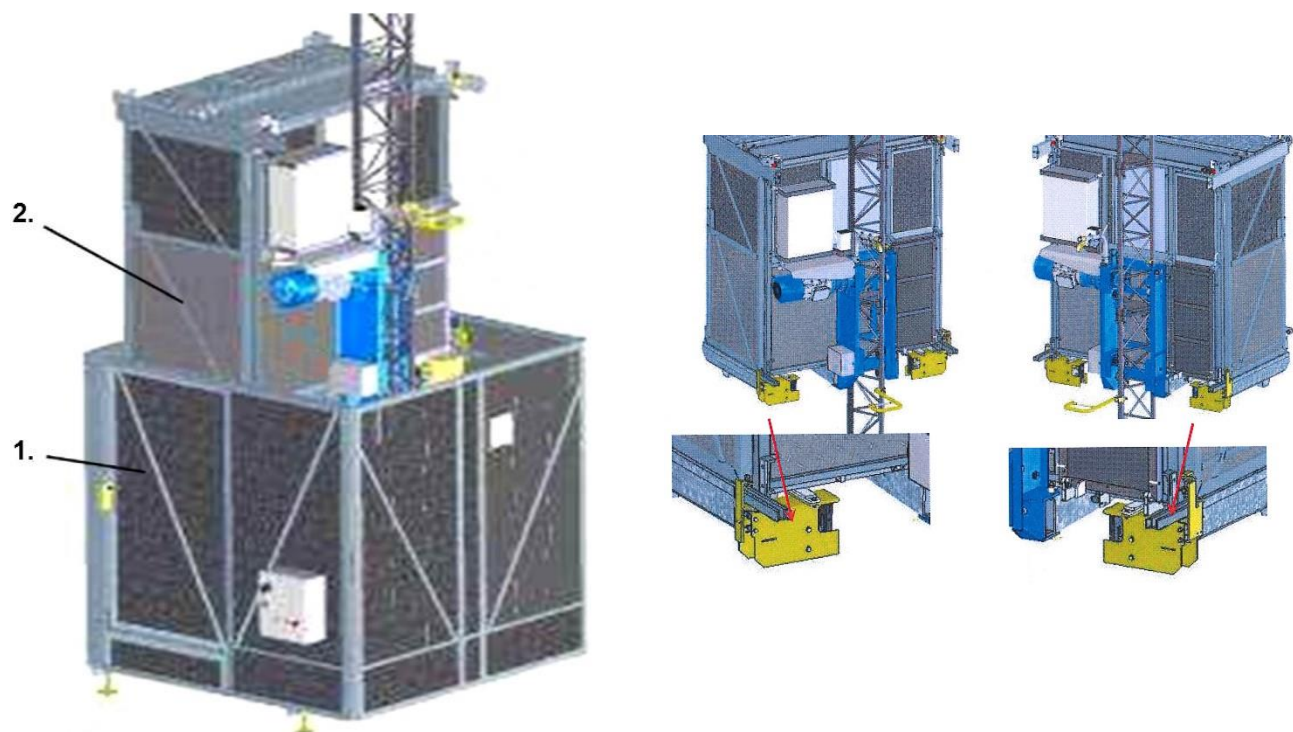

Figure 8.2
The electrically controlled movable guards that interlock mechanically are applied to the base enclosure access door, the ground floor access door to the loading unit and the doors leading to the floor level landing platforms. The control system consists of position detection switches and the mechanical interlocking system. If the door is open or not closed properly, the switch is not pressed; therefore, the machine cannot be operated. If the loading unit and the floor level doors are not aligned correctly, the mechanical interlocks prevent the doors from being opened. The base enclosure doors and the platform doors are shown in figure 8.2; the door (1) allows access to the base enclosure and the platform doors (2) allows access to the loading unit.